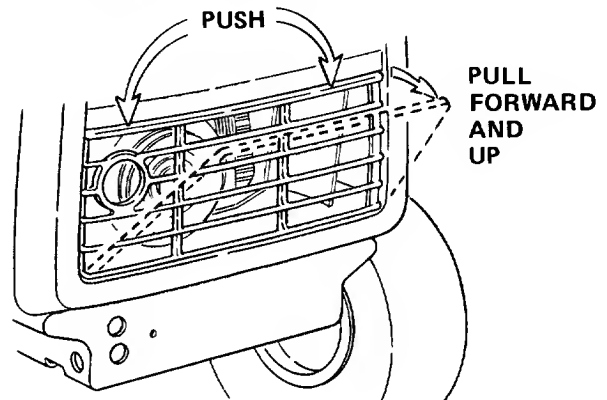

Figure 17
9. Make certain that the backside of the grille insert is clean and unobstructed. Push down on the top of the grille insert and pull forward as shown in Figure 17. Lift the grille insert up removing the tabs from the bottom of the grille housing. Remove by hand any accumulated grass and debris.